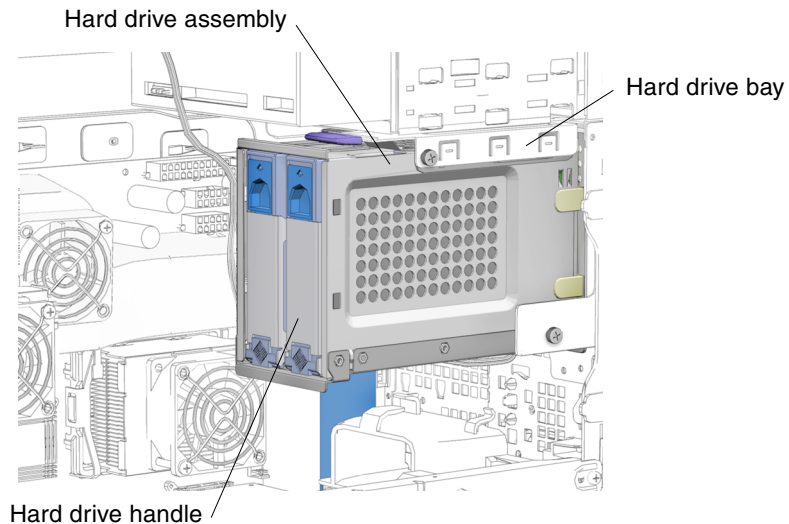

FIGURE 12-6 Installing the Hard Drive in the Hard Drive Assembly
7. Lock the hard drive into the hard drive assembly (FIGURE 12-6).